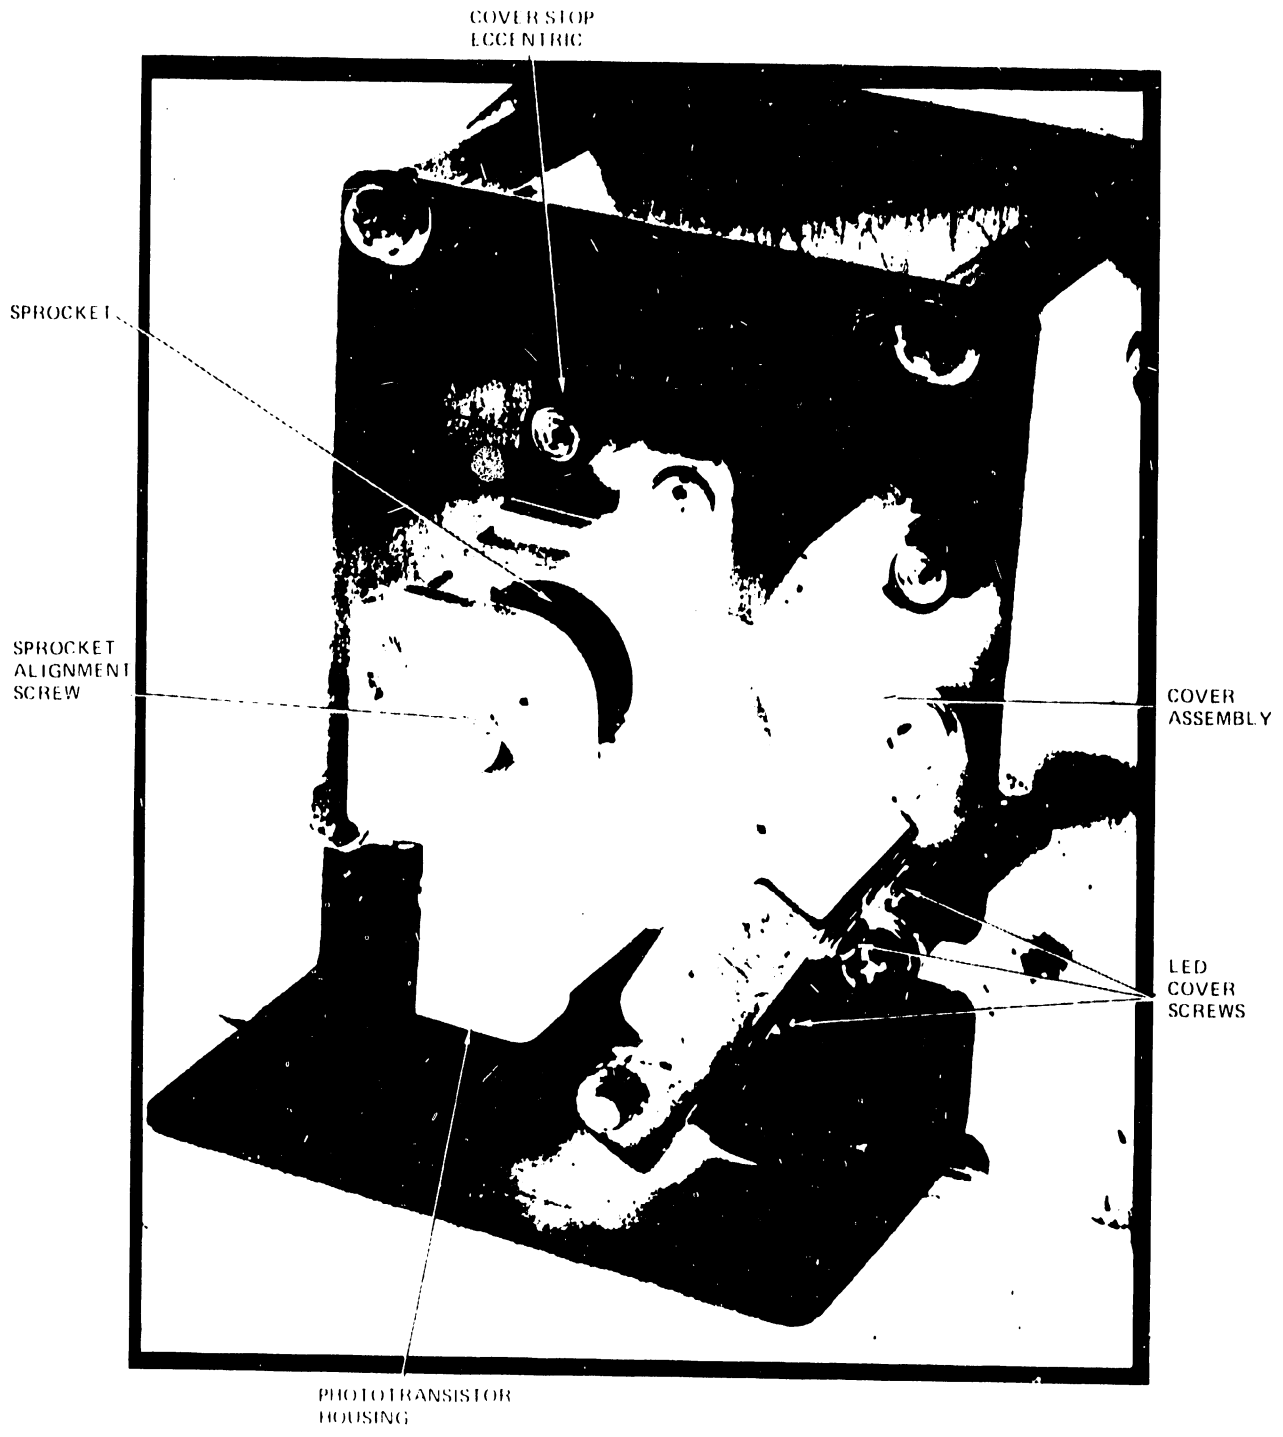

Figure 5-54. Vertical Format Tape Reader
- 1. See that the sprocket rim and the curved surface of the phototransistor housing are even and parallel. See Figures 5-54 through 5-56.
3. To center the VFU tape (lateral adjustment), turn the sprocket alignment/retaining screw. See Figures 5-54 and 5-56. A spring, located under this screw, keeps the screw at even tension as it is turned.
- a) With the format tape removed and with the cover assembly closed, loosen the three LED cover screws (see Figure 5-54) and move the cover up or down to obtain +5 volts on both channels, while still maintaining the clearance specified in step 2. Retighten the LED cover screws.